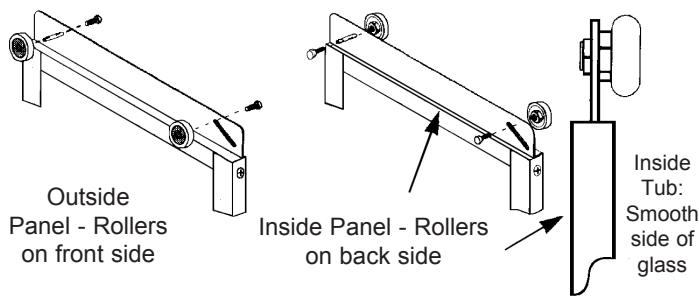

Figure 5C
- B. Use two more #8-32 x 3/8" HWH Screws (#17) to attach the remaining Rollers (#11) to the back surface of the Top Rail (#10) of the Inside Framed Door Panel (#6). The metal parts (the Nut side) should be against the frame, as shown in Figure 5C.